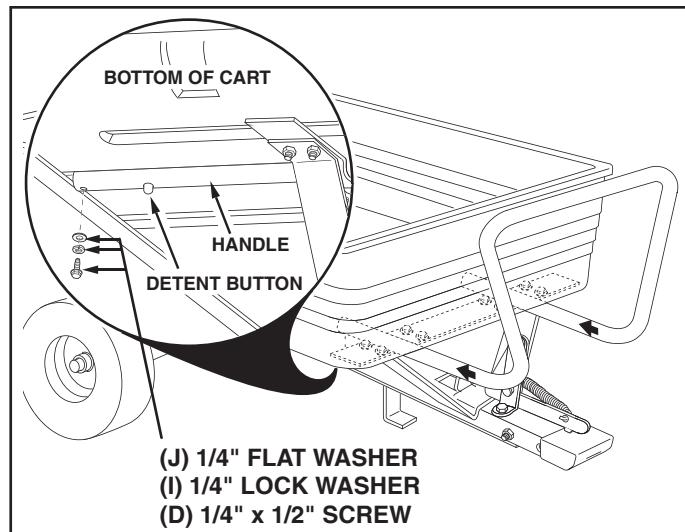

FIGURE 10
17. Slide the handle into the channels in the latch stand plate. Push the handle in all the way against the front of the tray by depressing the detent buttons in the bottom of the handle. See figure 10.
18. Assemble a $1/4"$ lock washer (I) and then a $1/4"$ flat washer (J) onto each of the two $1/4" \times 1/2"$ screws (D). Assemble the screws (D) into the small holes at each end of the handle. See figure 10.